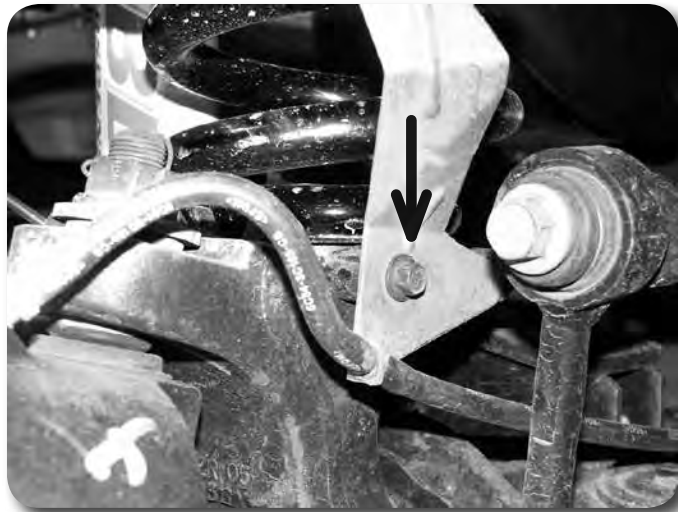

Figure 4
11. Disconnect the brake line bracket from the front of the coil perch (Fig 4). Retain hardware.